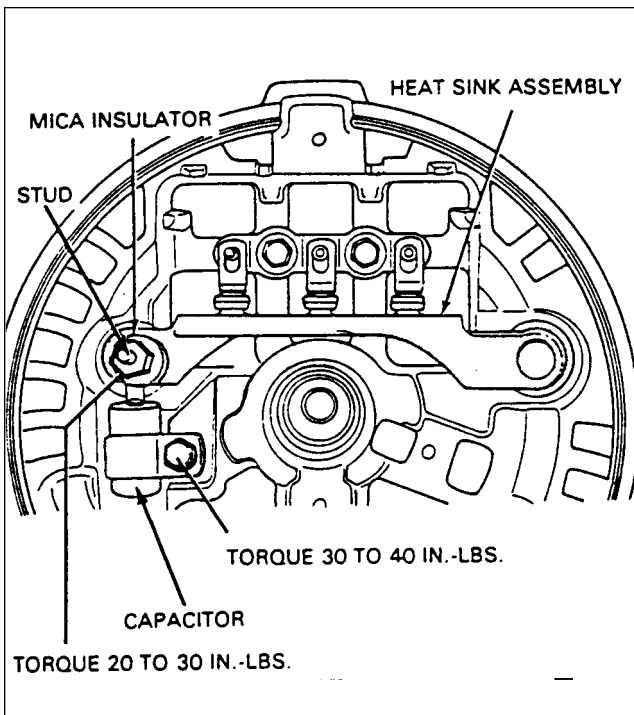

Figure 24-24. Installation of Capacitor
11. Install positive heatsink nut and lockwasher and tighten to a torque of 20 to 30 inch-pounds. (Refer to figure 24-24.)